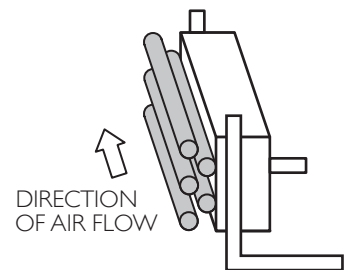

FIGURE 2 – SUGGESTED "L" BRACKET MOUNTING
4. It is preferable, although not mandatory, to install the units with the tubes parallel to the airflow. See figure 2
- a. To mount the ionizer inside an air handling unit, use "L" shaped brackets that are secured to the walls or floor of the AHU with sheet metal screws. See figure 2